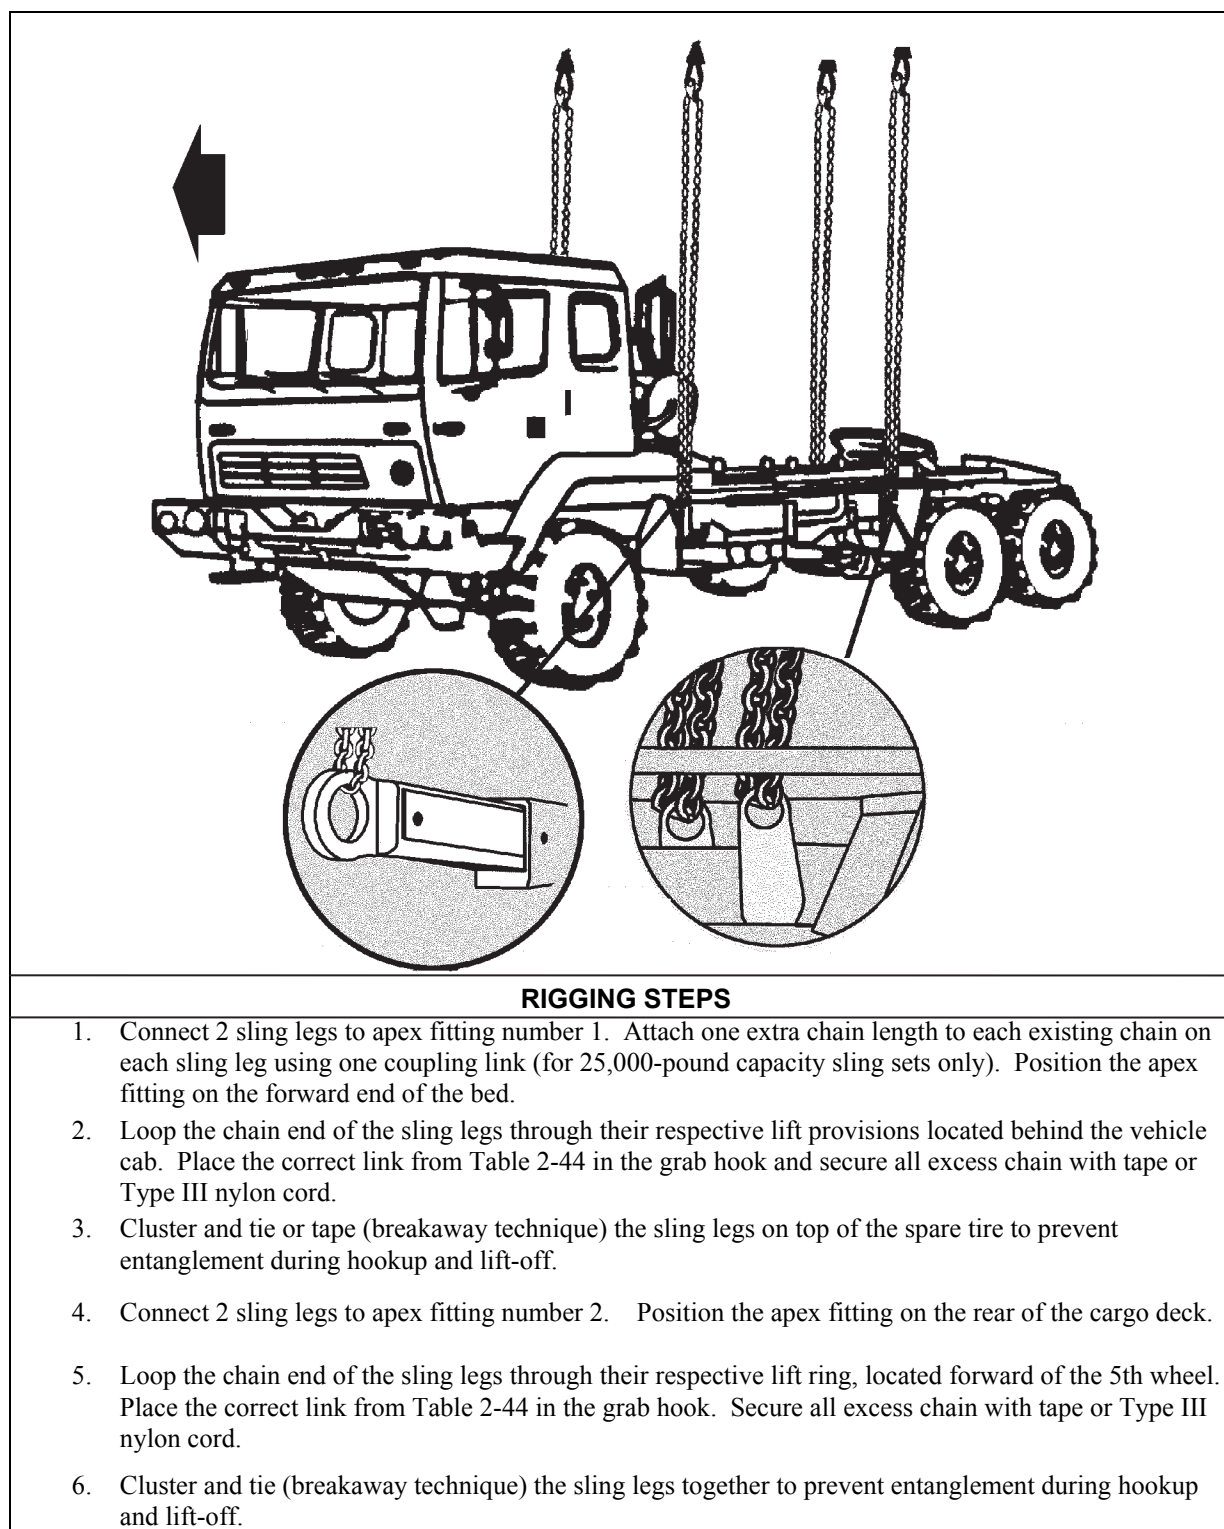

Figure 2-43. Medium Tactical Vehicle, Tractor, M1088/M1088A1
- **Rigging.** Rig the load according to the steps in Figure 2-43.